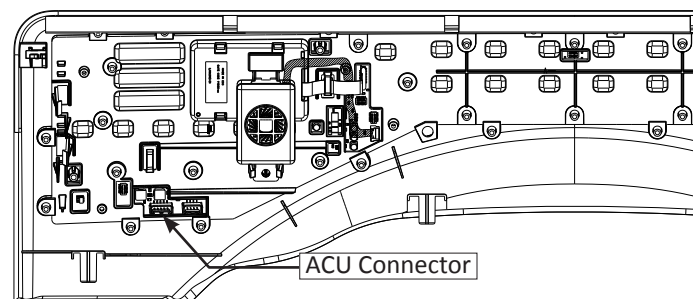

Figure 1 - Whirlpool Console HMI
5. Visually check that all HMI connectors are inserted all the way into the HMI. See Figures 1 & 2.